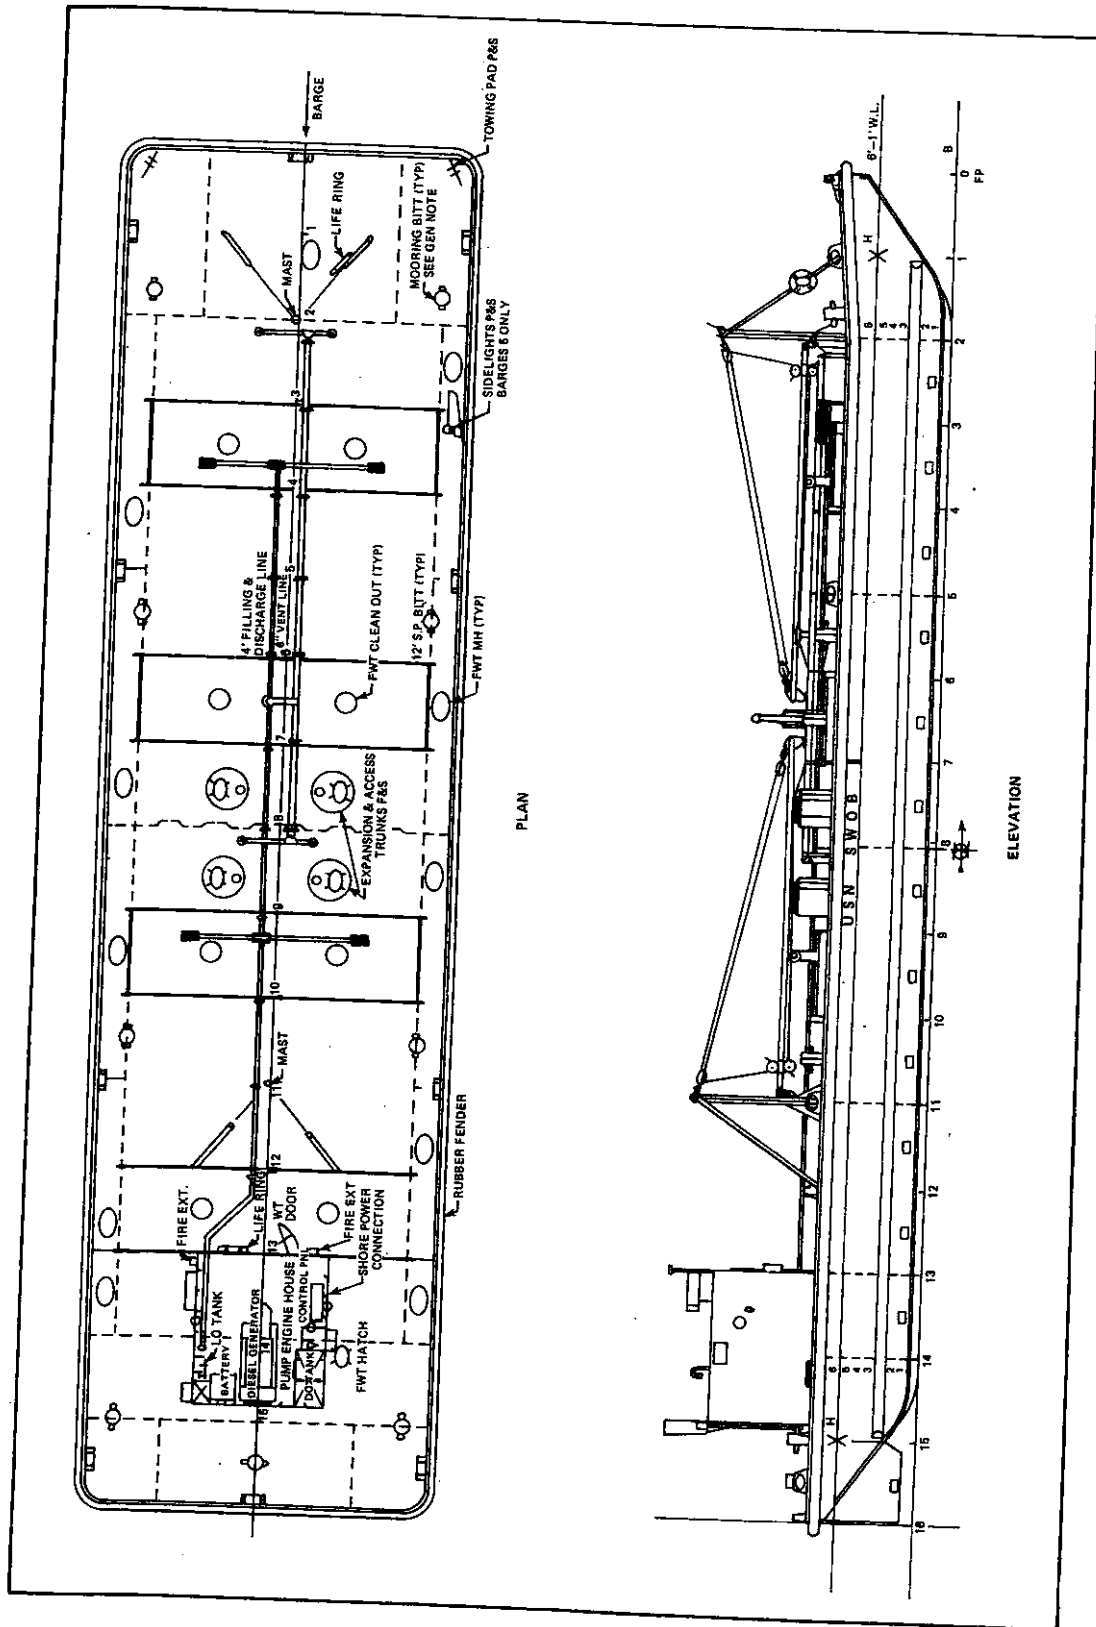

FIGURE 2-1
2.1 GENERAL ARRANGEMENT. The SWOB is a nonself-propelled multipurpose tank barge designed to transfer ship-generated wastes from Naval ships to shore treatment facilities. Figure 2-1 shows an elevation and planview of the SWOB. There are some variations of arrangement; for instance, later designs are not outfitted with king posts and cargo booms. Major features of all designs include four cargo tanks with surrounding void space, a deckhouse for power and control equipment, a pump room located below the deckhouse, and a forward storage compartment.